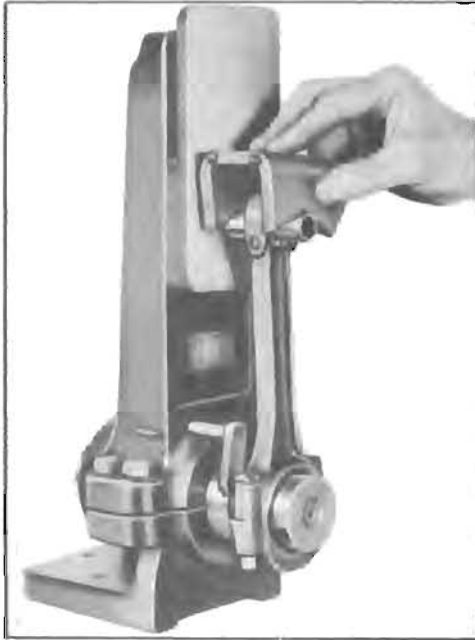

Figure 2-31—Checking Connecting Rod Alignment
1. Connecting rods may be sprung out of alignment in shipping or handling, therefore, they must always be checked before pistons are installed. Clamp a new piston pin in upper end of connecting rod and test the rod for twist and bend, using an accurate connecting rod aligning fixture. See figure 2-31. Bend or twist the rod if necessary, to secure proper alignment.